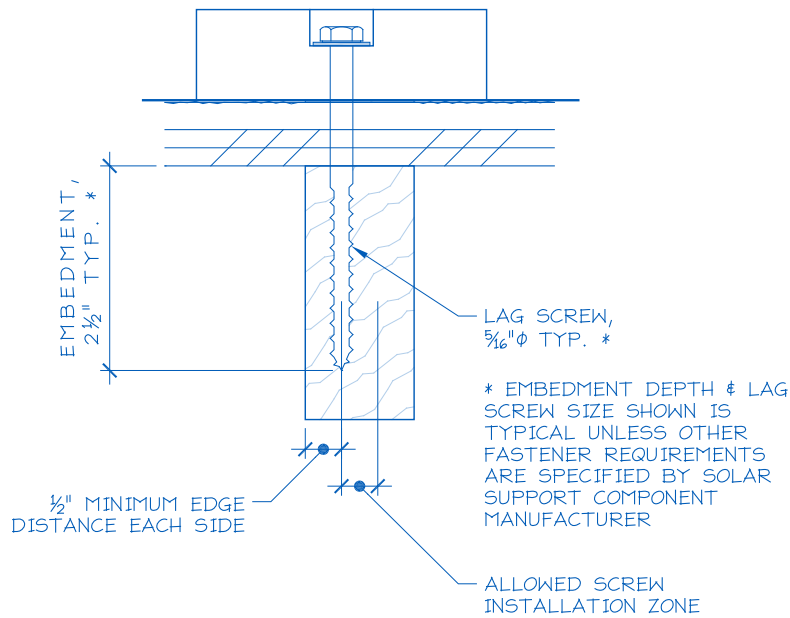

Figure 3. Typical Anchor with Lag Screw Attachment.
- 1) Anchor fastener data (**Figure 3**):